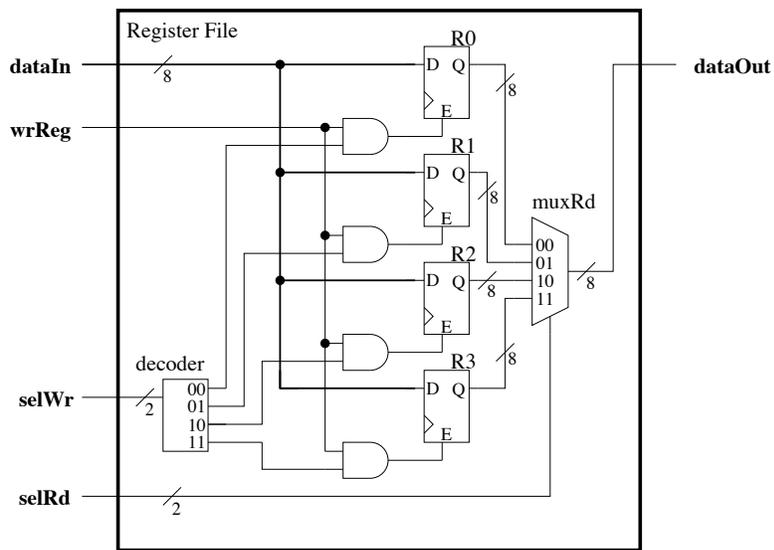

Figure B1. Register File details.
16. The **Register File** circuit is shown in Figures B1 and B2. The purpose of this circuit is to experiment with reading and writing values to different registers. Navigate to the **hw1B** folder and open the **.qpf** project file. Create the programming file and program your board. Again, you probably want to use the *temporary programming method*.